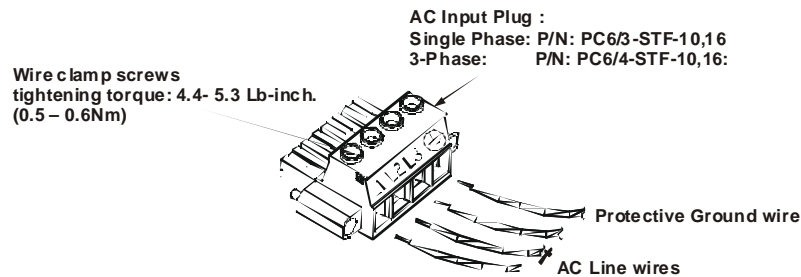

Fig. 3-3: AC Input plug
- Connect the AC wires to the terminals of the input plug supplied with the unit. To connect the wires, loosen the terminal screw, insert the stripped wire into the terminal and tighten the screw securely (4.4-5.3 Lb-inch). (0.5 - 0.6Nm) Refer to Fig. 3-3 for details. Pay attention to connect the wires according to the polarity marking on the plug.